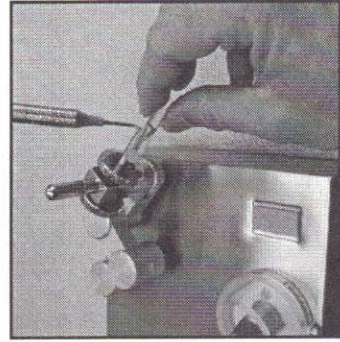

Fig. 8
3. Lightly trace the blade surfaces (to be sharpened) on the surface of the spinning Sharpening Cone (fig 8).
- Using the plastic Test Stick provided, test for sharpness prior to removing the tip from the Blade Clamp (fig.8).